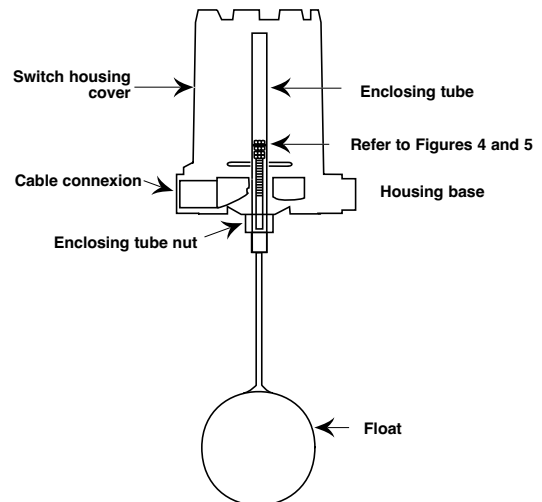

Figure 5
4. Disconnect power supply wires from switch mechanism. Pull wires out of cable gland opening in housing base. Refer to **Figure 5**.
6. Remove switch housing assembly by loosening enclosing tube nut, which is located immediately below housing base. Refer to **Figure 5**.